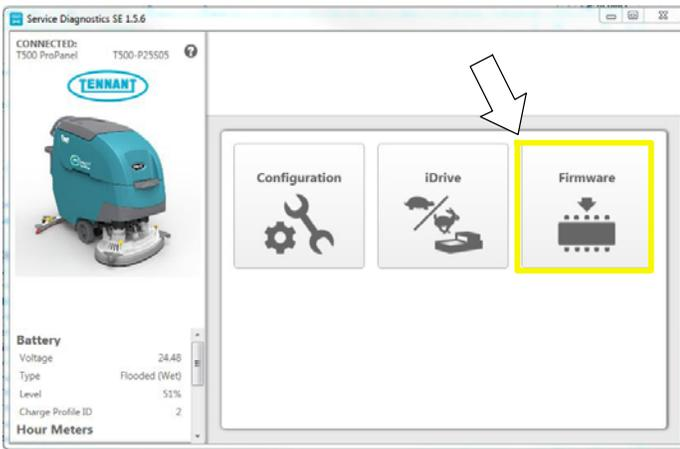

Fig. 13
- Once connected, the home screen will appear (Figure 13). If firmware updates are required, the “Firmware” button will be highlighted in yellow as shown. Press the button to update the machine’s firmware.